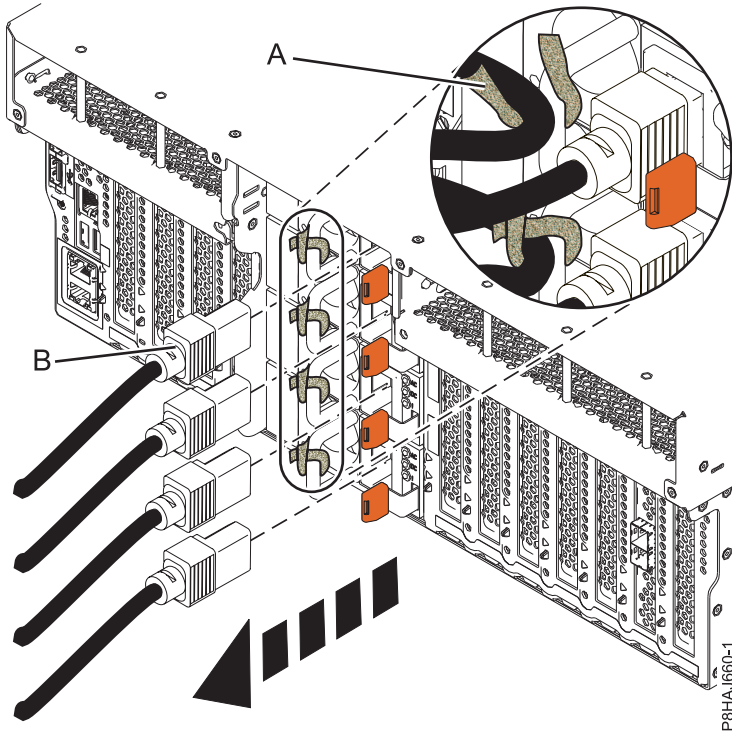
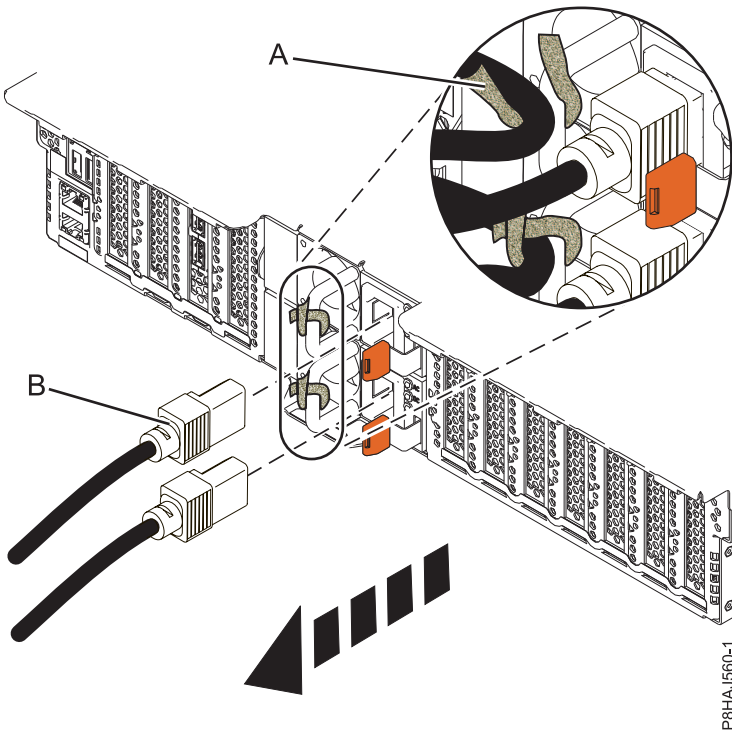
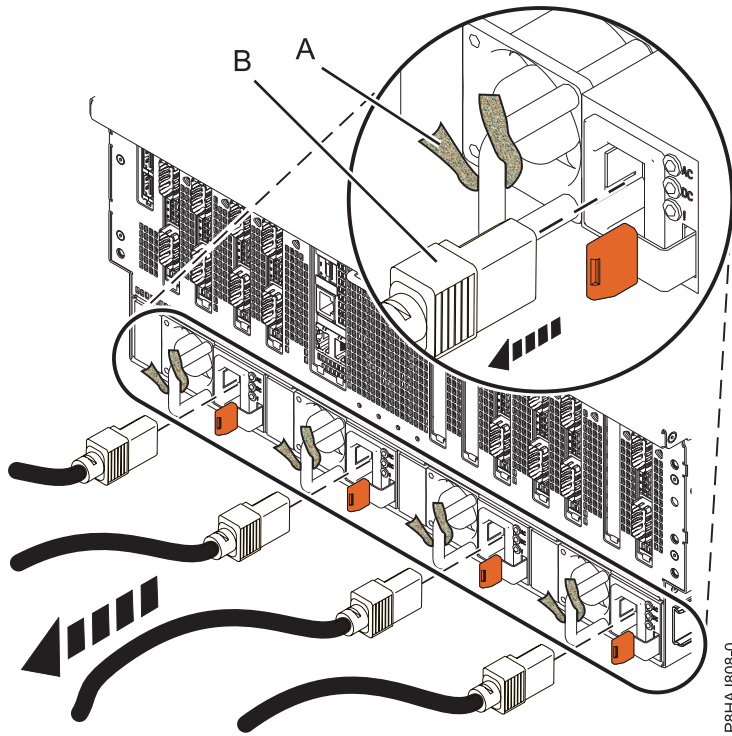

Figure 18. Removing the power cords from an 8247-42L, 8286-41A, or 8286-42A system
Figure 19. Removing the power cords from an 5148-21L, 5148-22L, 8247-21L, 8247-22L, 8284-21A, or 8284-22A system
Figure 20. Removing the power cords from an 8408-44E or 8408-E8E system
3. Disconnect the power cords (**B**) from the system unit. See Figure 18 on page 42, Figure 19 on page 42, or Figure 20 on page 43 or depending on the type of your system.